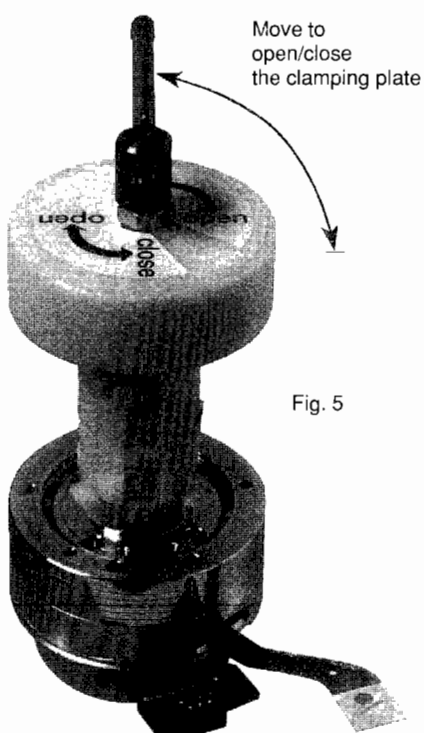

Fig. 5
- Position the tool on the upper clamping element, loosen the clamping element by turning the lever 90 degrees and remove it from the head disc. (Fig. 5)
- Position the tool planely on the head disc and fix the clamping element. (Fig.5 "close")